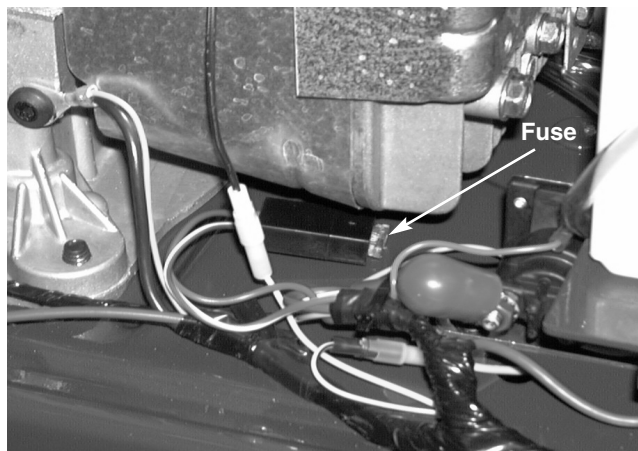

FIGURE 7.
- 12). Locate and remove the fuse from the fuse connector. See figure 7.